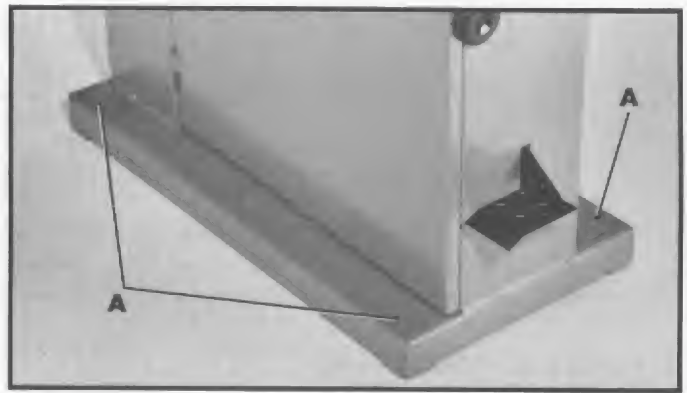

Fig. 2
It is important that the bandsaw be set on a solid, level foundation. If rocking occurs, place metal shims at the corners between the base and the floor. Lag screws or bolts should be used to secure the machine to the floor using the four holes in the base, three of which are shown at (A) Fig. 2.